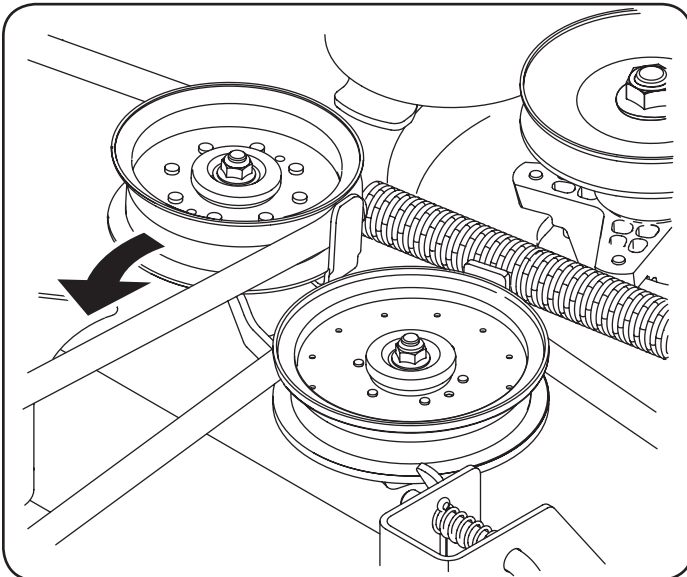

Figure 32
- Working from the middle of the tractor, pivot the idler bracket and movable idler pulley rearward away from the backside of the 'V' belt just far enough to lift the belt up and over the idler pulley. See Figure 32.